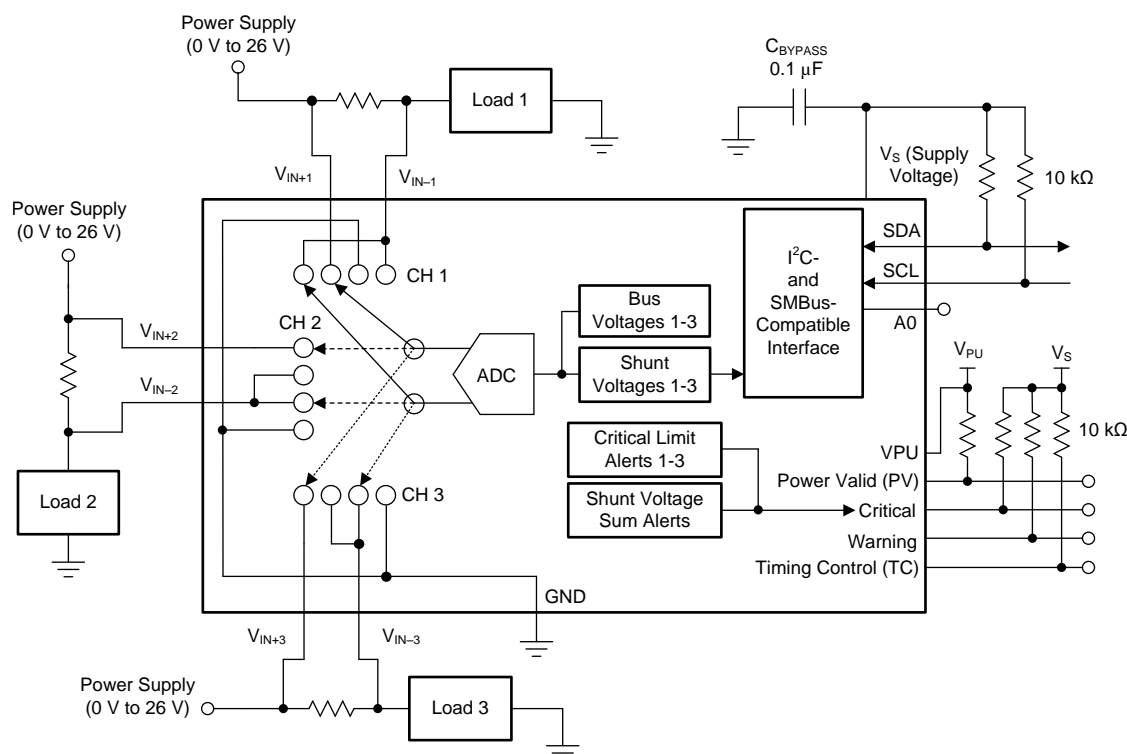

Figure 52. INA3221 as an Overcurrent Sensor
Figure 52 illustrates a typical INA3221 application circuit using all three channels. For best performance, use a 0.1-μF ceramic capacitor for power-supply bypassing, placed as close as possible to the supply and ground pins. The digital pins (SCL, SDA, Critical, Warning, TC) are connected to supply through pull-up resistors. The power valid (PV) alert pin is connected to the VPU pin through a pull-up resistor to enable power-valid monitoring.